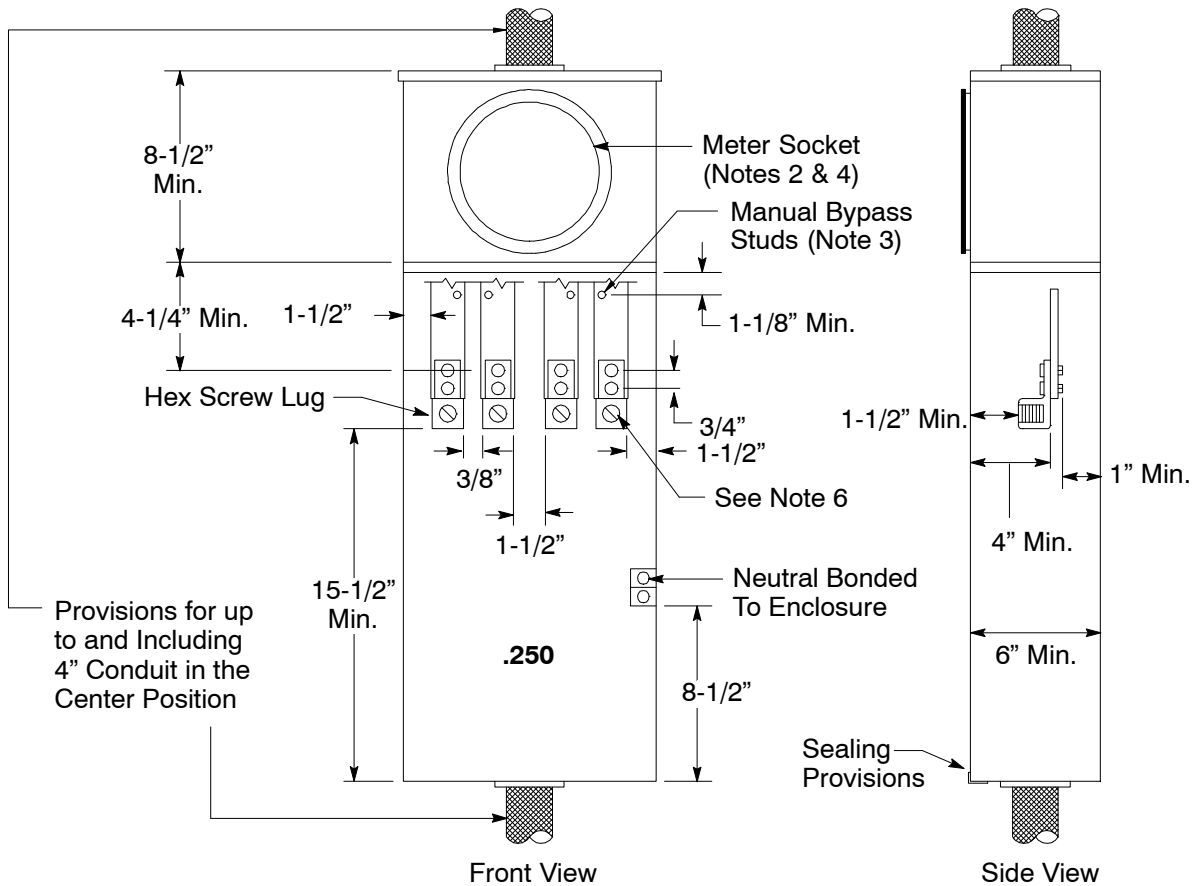

Figure 2
- (1) Combination service pull termination and meter socket, 0 through 200 amp (see Figure 1 on Page 3), or 201 through 320 amp (see Figure 2 on Page 4).